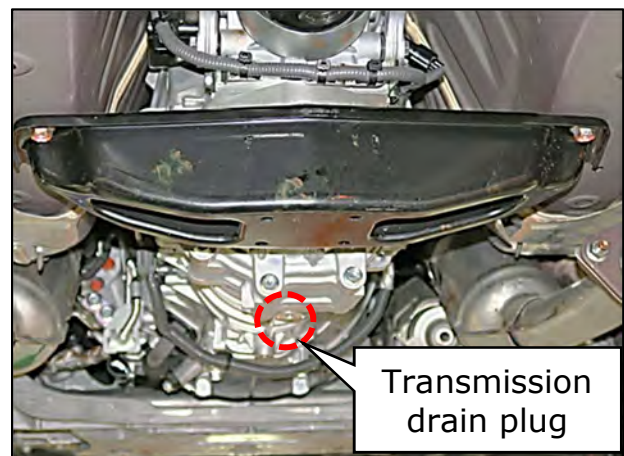

Figure 2
4. Drain the transmission fluid. (Figure 2)